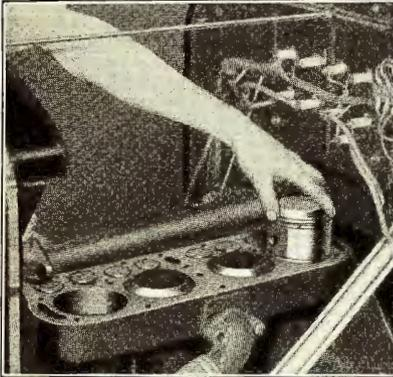

Fig. 238
- (g) Remove No. 1 and No. 4 pistons by pushing them up in cylinder until bottom ring clears top of cylinder. Pistons can then be withdrawn (See Fig. 238).